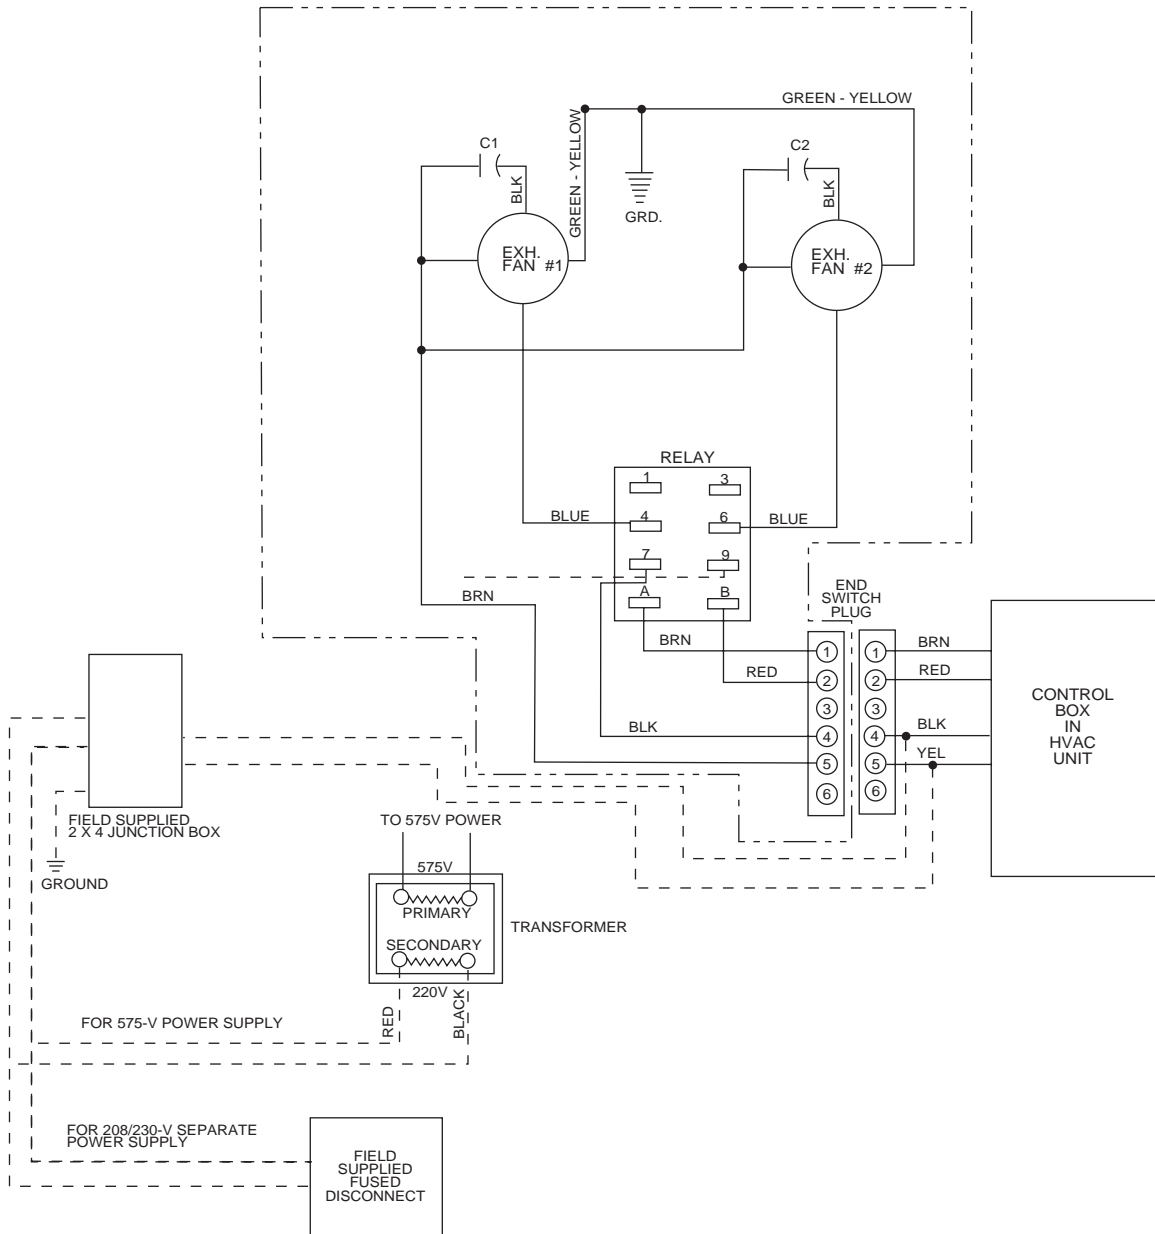

Fig. 4 — Power Exhaust Wiring — 208/230-v and 575-v Units
6. Connect the power exhaust harness plug to the unit power exhaust harness. See Fig. 4 and 5 for wiring.